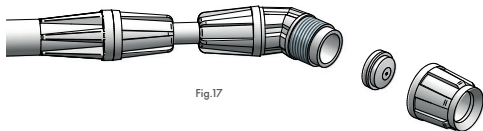

Fig.17
Unscrew the lance tip nut (fig. 17 / item 2). Replace the nozzle (fig. 17 / item 1). Screw the lance tip nut with the nozzle onto the lance until it is airtight. Nozzle replacement can be done without removing pressure from the device.